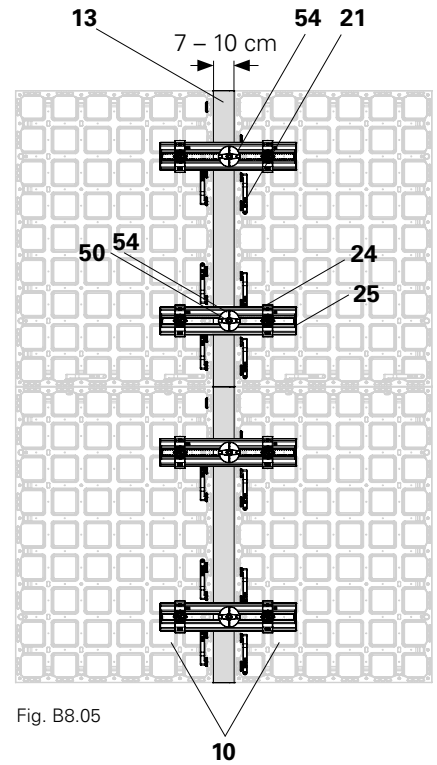

Fig. B8.05
3. Insert tie rod (**50**) through the DWC wall thickness compensator (**13**). (Fig. B8.05)